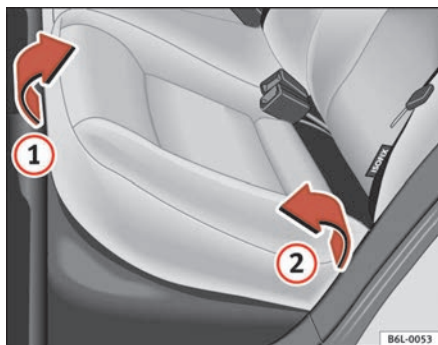
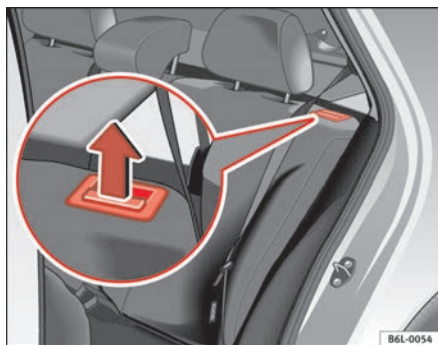

Fig. 70 Folding up the rear seat cushion
Fig. 71 Button for unlocking the rear backrest
- Pull the front edge of the seat cushion ⇒ fig. 70 ① upwards in the direction of the arrow.
- Lift the cushion ② forwards in the direction of the arrow.
- Pull the release button ⇒ fig. 71 in the direction of the arrow and fold the backrest forwards.